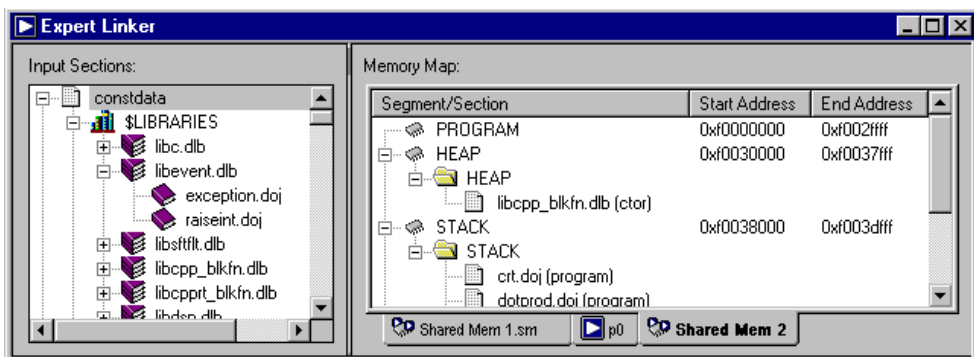

Figure 1-4. Expert Linker Window
**Linker** window (Figure 1-4 on page 1-36). Use this display to modify the memory map or the object mappings. When the project is ready to be built, Expert Linker saves the changes to the `.ldf` file.
You can launch the Expert Linker (see Figure 1-4) from VisualDSP++ in three ways:
The Expert Linker window (Figure 1-4) enables you to modify the memory map or the object mappings. You can specify a color for each type of object (internal memory, external memory, unused memory, reserved memory, output sections, object sections, overlays in live space, and overlays in run space). The objects are displayed in color when you view the **Memory Map** pane in graphical memory map mode. When the project is ready to be built, Expert Linker saves the changes to the `.ldf` file.